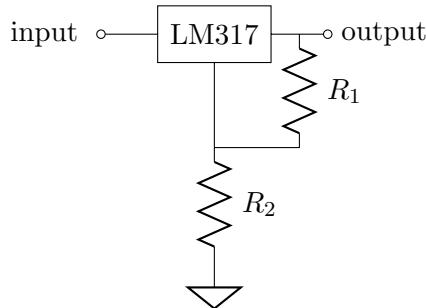

Figure 3: LM317 linear regulator circuit.
- b) For the circuit of Fig. 3, with sing an input voltage of 9V and $R_1=510\Omega$, what's the value of R_2 such that the output voltage is 5 V? What is the efficiency of the regulator in this case? “LM317” refers to the Texas Instruments LM317 voltage regulator IC. You should be able to find its datasheet online.